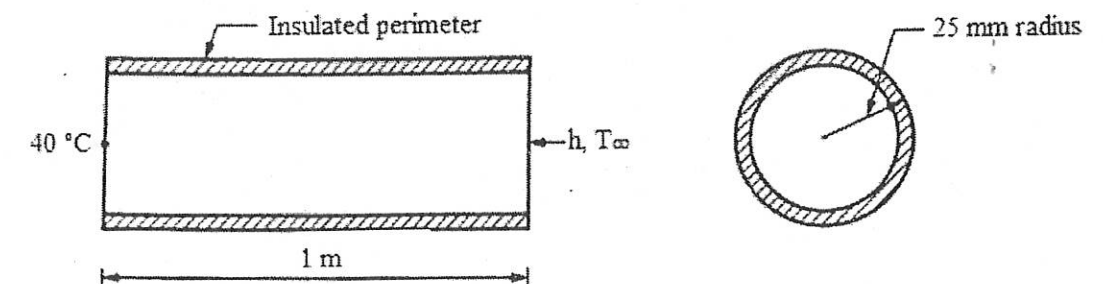

Figure. 8
16. (a) Determine the temperature distribution along the length of the rod (at  $L/4$ ,  $L/2$ ,  $3L/4$  and  $L$ ) as shown in Figure 8. The rod with radius of 25 mm is insulated at the perimeter. The left end has a constant temperature of  $40^\circ\text{C}$  and a free stream temperature  $T_\infty$  is  $-10^\circ\text{C}$ . Let  $k=35 \text{ W/m}^\circ\text{C}$  and  $h=55 \text{ W/m}^2 \text{ C}$ .